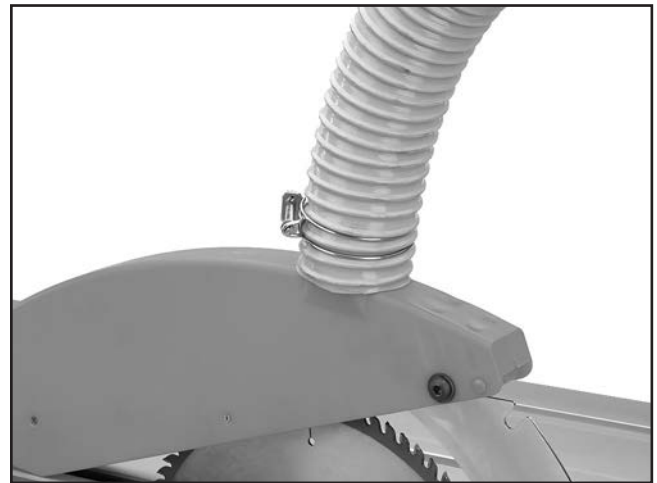

Figure 58. 2½" Dust port location.
57. Attach a 2½" dust hose to the dust port, as shown in Figure 58.